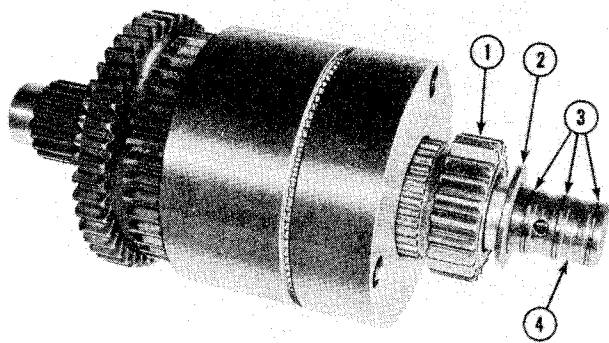

Figure 4-105
Remove the seal rings (3, Fig. 4-105) from the shaft (4). Discard the seal rings.
Remove washer (2, Fig. 4-105) and 3rd speed drive gear (1) from shaft (4).